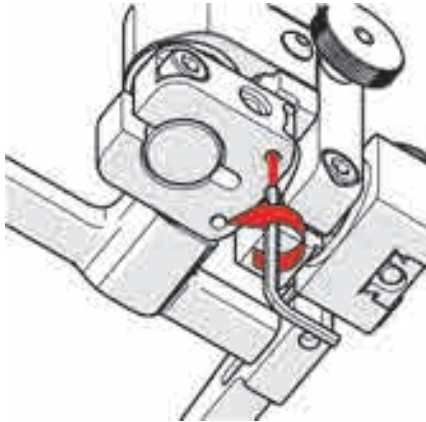

Figure 4-71 Lower 90° stop post
7. Locate the recessed M3 screw on the bottom of the probe holder. Unscrew the stop post using a 1.5 mm hex wrench until it has cleared all obstructions. Do not remove stop post (see Figure 4-71 on page 147).